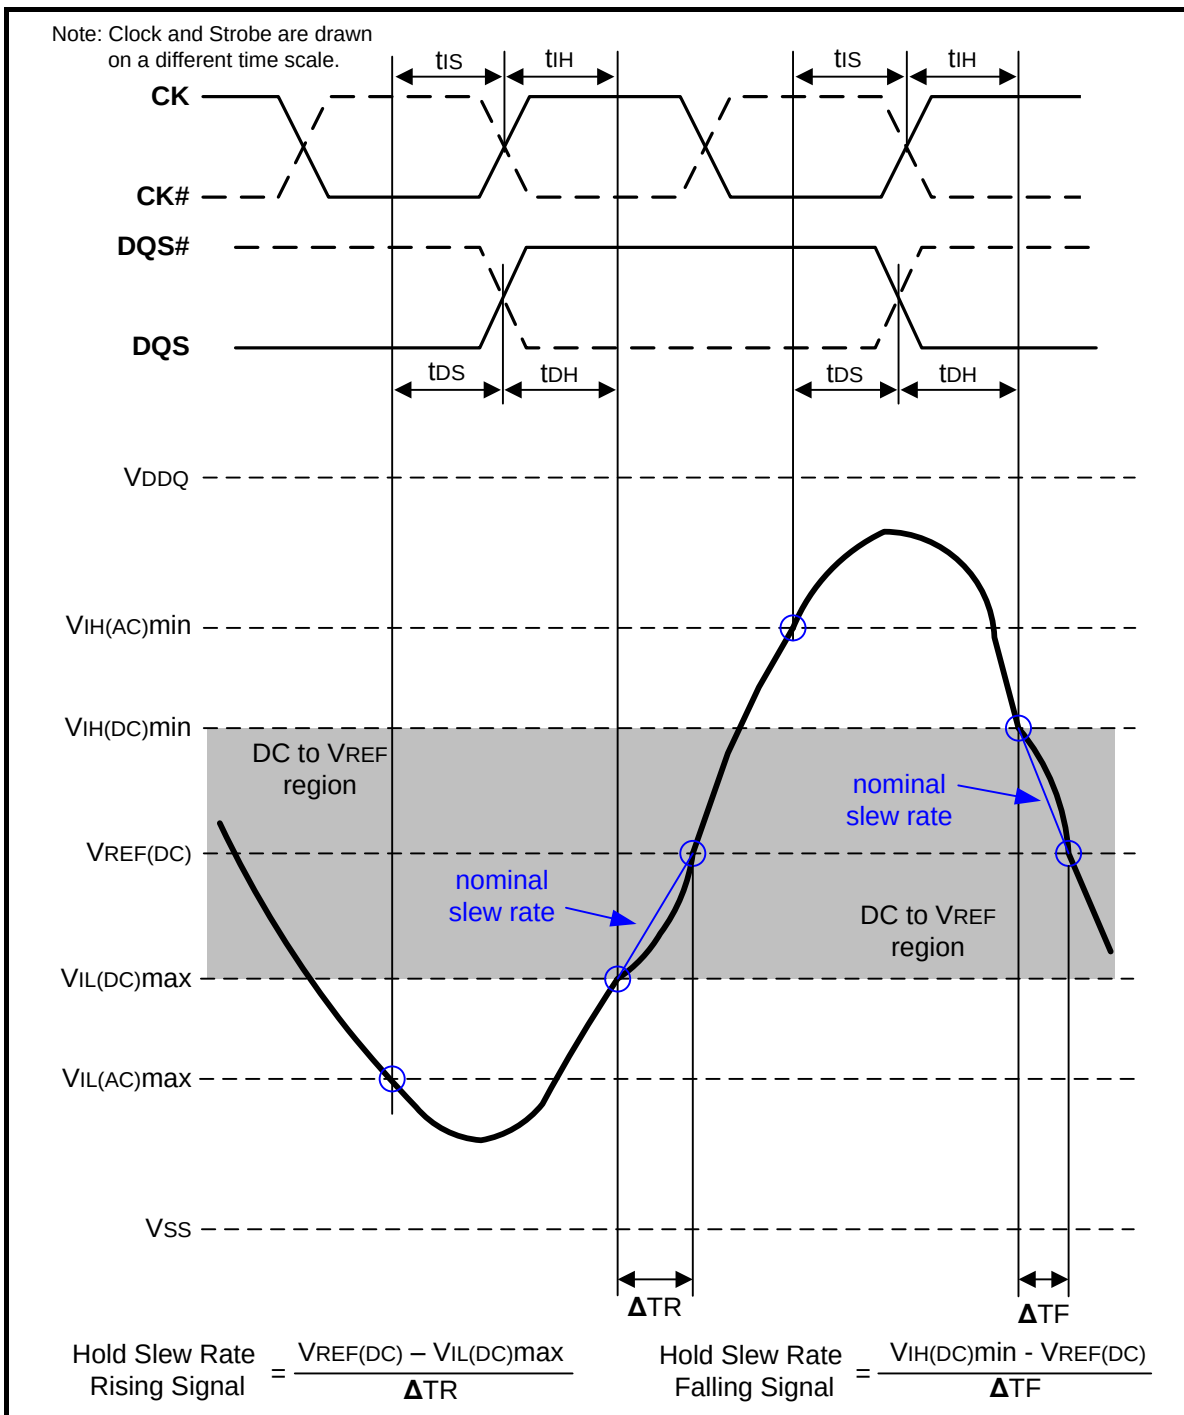
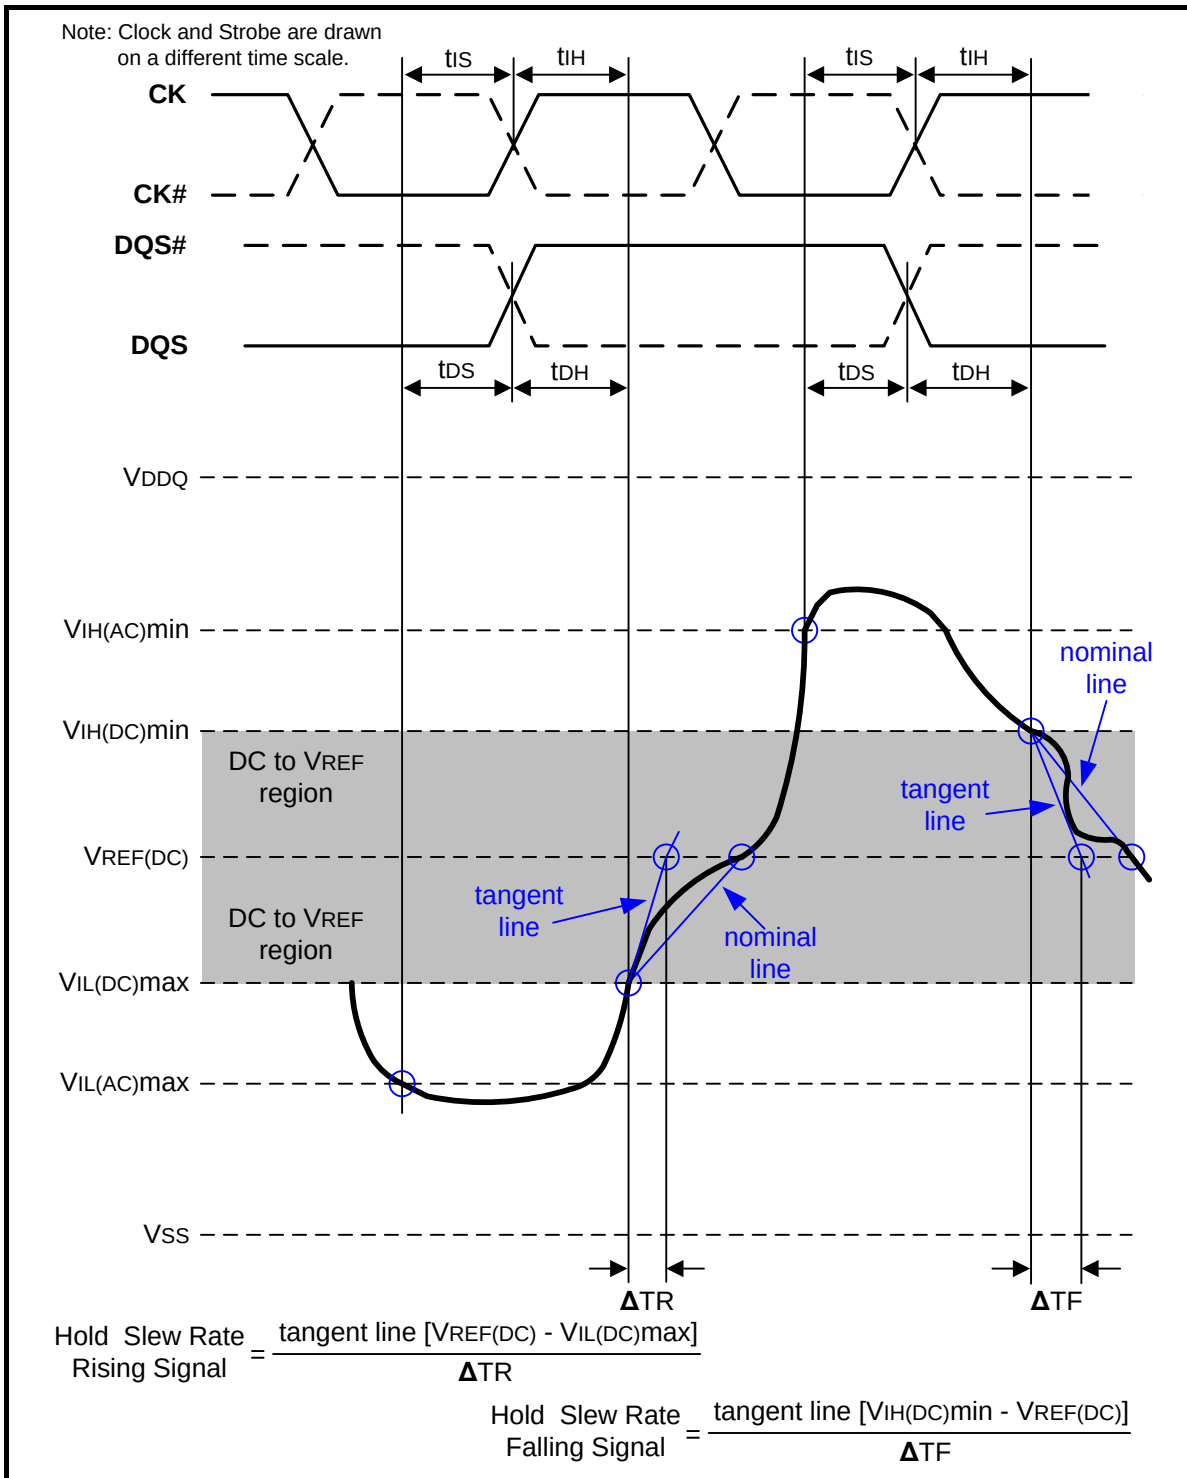

Figure 108 – Illustration of nominal slew rate for hold time t_{DH} (for DQ with respect to strobe) and t_{IH} (for ADD/CMD with respect to clock)
Figure 110 – Illustration of tangent line for for hold time tDH (for DQ with respect to strobe) and tIH (for ADD/CMD with respect to clock)
Hold (t_{IH}) nominal slew rate for a rising signal is defined as the slew rate between the last crossing of $V_{IL}(\text{DC})_{\text{max}}$ and the first crossing of $V_{REF}(\text{DC})$. Hold (t_{IH}) nominal slew rate for a falling signal is defined as the slew rate between the last crossing of $V_{IH}(\text{DC})_{\text{min}}$ and the first crossing of $V_{REF}(\text{DC})$. If the actual signal is always later than the nominal slew rate line between shaded 'DC to VREF(DC) region', use nominal slew rate for derating value (see Figure 108). If the actual signal is earlier than the nominal slew rate line anywhere between shaded 'DC to VREF(DC) region', the slew rate of a tangent line to the actual signal from the DC level to $V_{REF}(\text{DC})$ level is used for derating value (see Figure 110).
Hold (t_{DH}) nominal slew rate for a rising signal is defined as the slew rate between the last crossing of $V_{IL}(\text{DC})_{\text{max}}$ and the first crossing of $V_{REF}(\text{DC})$. Hold (t_{DH}) nominal slew rate for a falling signal is defined as the slew rate between the last crossing of $V_{IH}(\text{DC})_{\text{min}}$ and the first crossing of $V_{REF}(\text{DC})$ (see Figure 108). If the actual signal is always later than the nominal slew rate line between shaded 'DC level to $V_{REF}(\text{DC})$ region', use nominal slew rate for derating value. If the actual signal is earlier than the nominal slew rate line anywhere between shaded 'DC to $V_{REF}(\text{DC})$ region', the slew rate of a tangent line to the actual signal from the DC level to $V_{REF}(\text{DC})$ level is used for derating value (see Figure 110).